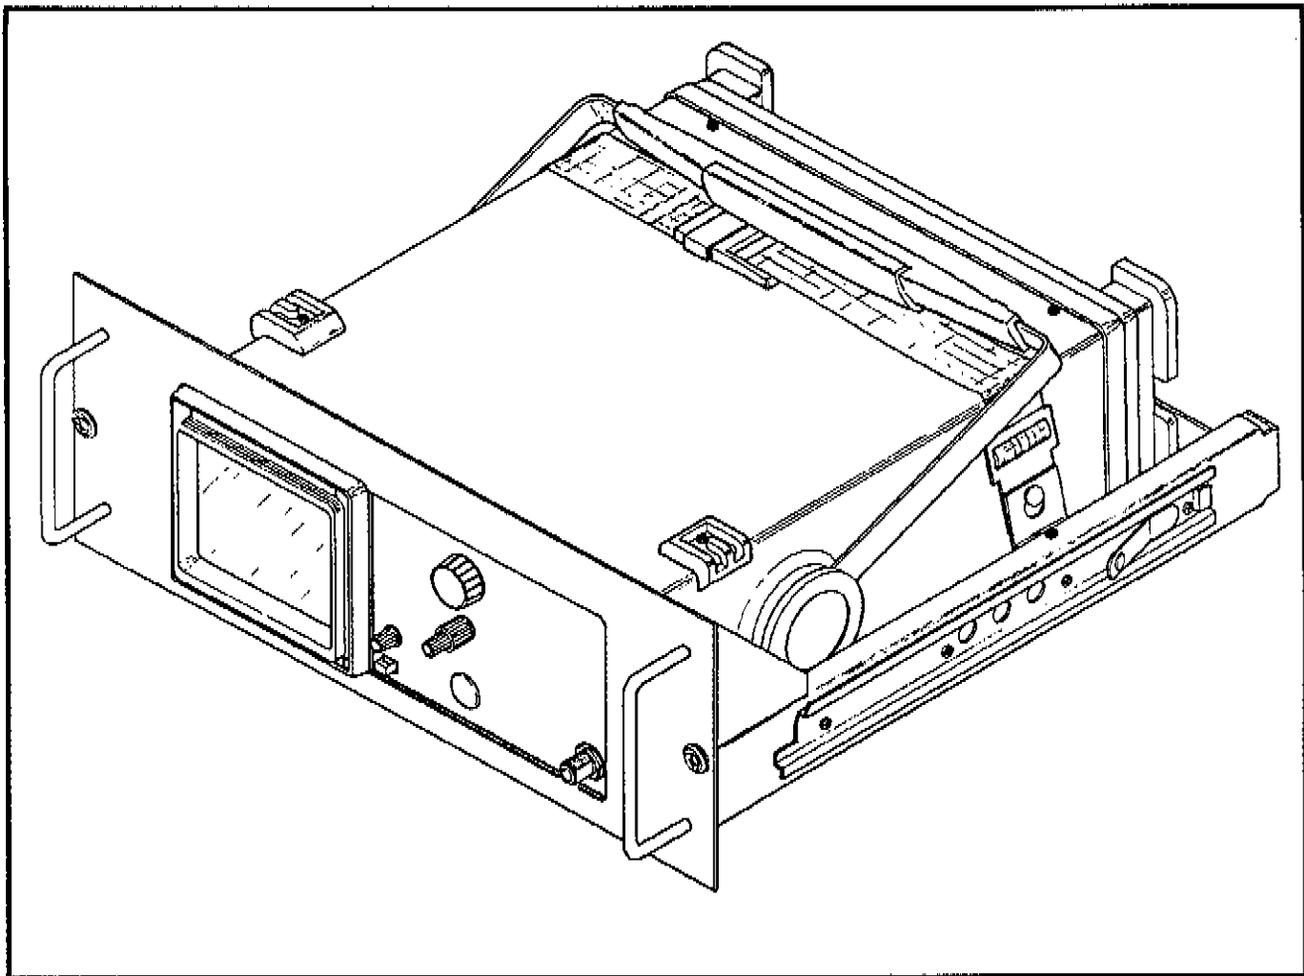

Figure 6-10. Spectrum Analyzer Installed In the cradle-mount rack adapter.
5. Place the Spectrum Analyzer in the rack adapter and push it forward until the crt bezel is flush with the rack adapter mask. See Figure 6-10.
8. Take up some slack from the tie-down so that the nylon strap is just barely snug, then take up the final slack with the tie-down buckle. See Figure 6-10 for the final product.